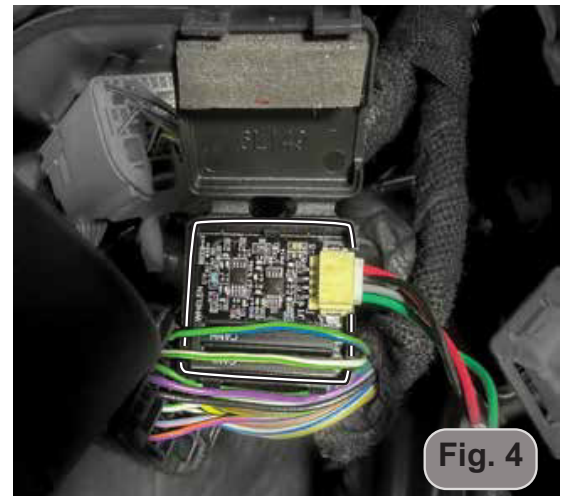

Fig. 4
3. Using caution to avoid crossing the wires, lay both the CAN H (green/blue) and CAN L (white/green) wires in the designated channels of the SCANport™ Sensor Box (Fig.4).